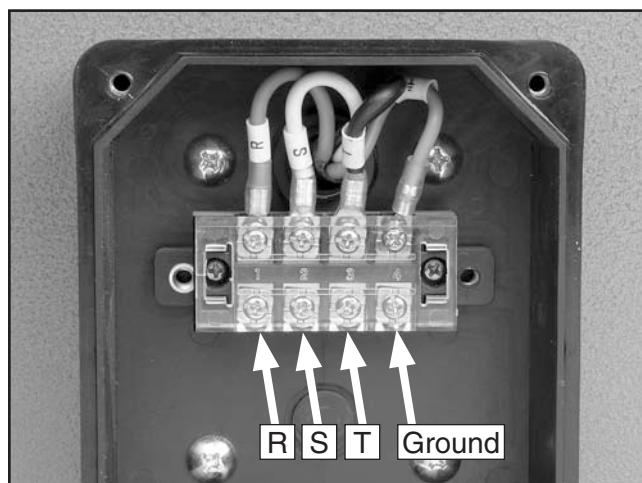

Figure 52. Main terminal box.
2. Connect the power wires to the terminals shown in **Figure 52**, tighten the strain relief so the wires can't be pulled from the terminals, then close the power connection box.